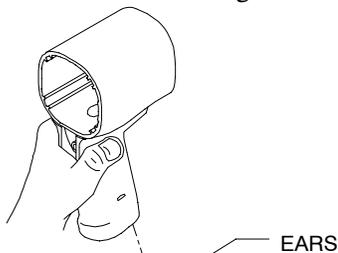

Figure 8 (Dwg. TPD1330)
1. Install the Bottom Reverse Valve O-ring (3B) (color-coded blue) and the Top Reverse Valve bring (3A) on the Reverse Valve (30).
2. Insert the Reverse Valve in the bottom of the handle making sure that two ears on the Reverse Valve are facing downward. Refer to Figure 8.